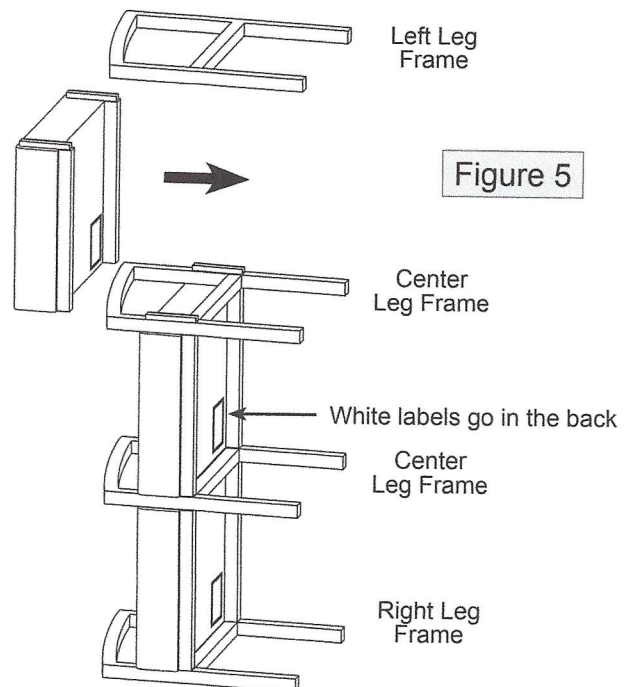

Figure 5
4. Continue attaching seat cushions and leg frames until entire set is assembled, as shown in figure 5. **Again, keep all wedge hardware connections loose.**